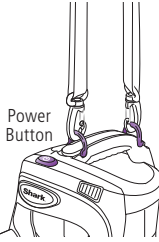

Fig. 5
- 9 While holding the Portable Vac by the handle, press down on the power button to turn the Portable Vac on and begin vacuuming. Press down again to turn the vacuum off. (**fig. 5**)